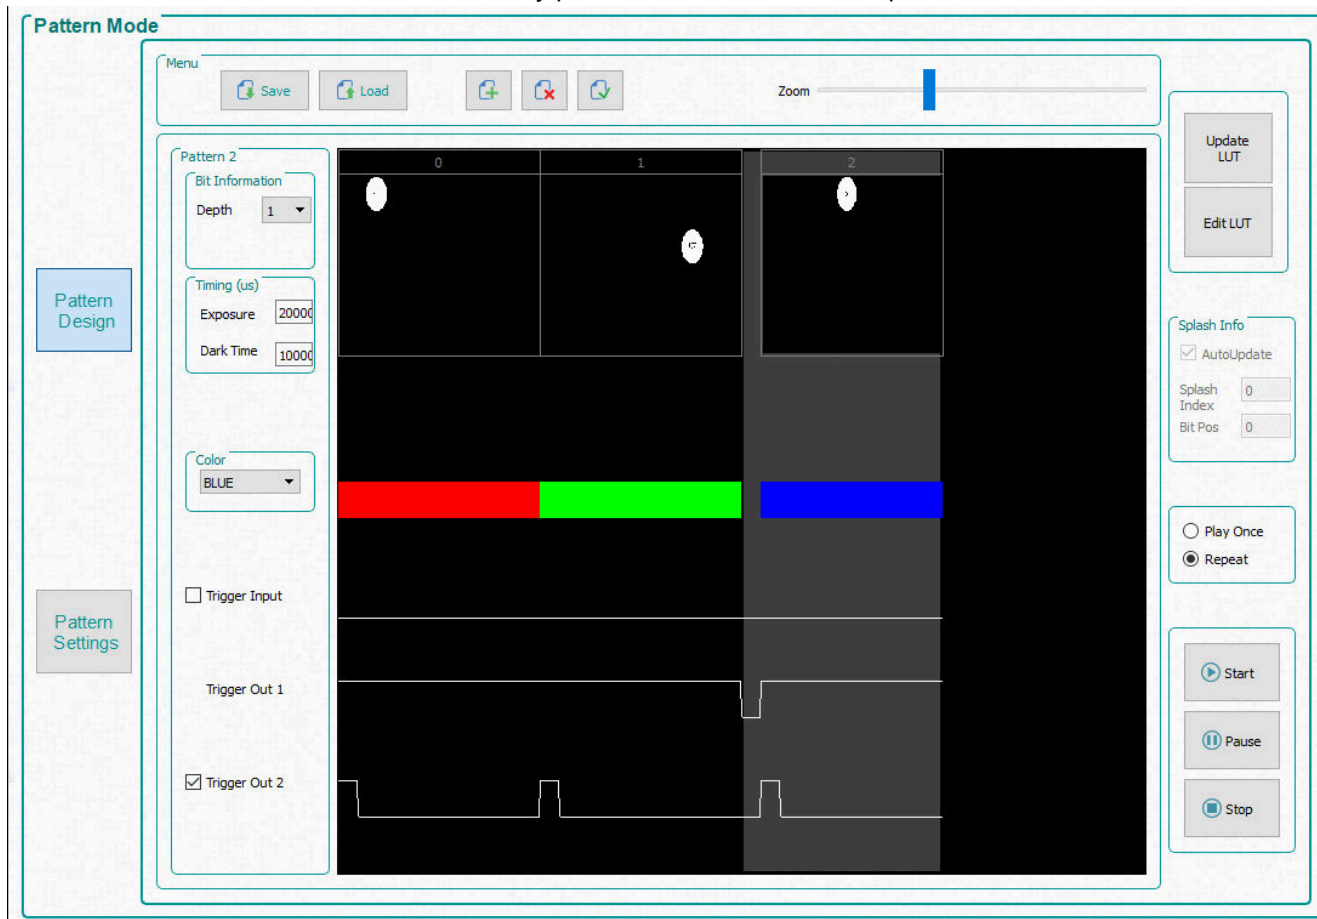

Figure 3-10. Three Pattern Sequence
7. Select the third pattern and choose a bit depth of 1. Set exposure to 200000 μ s and set dark time to 100000 μ s, and select **Blue** as the color. Figure 3-10 shows the pattern sequence. The *Zoom* bar can be used to zoom in and out. This is useful when many patterns are loaded into the panel.